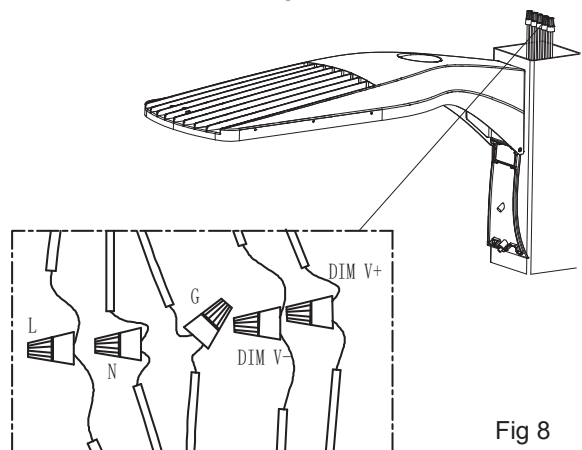

Fig 8
1. Connect the fixture wires to the power supply wires using P3 wire nuts.(Fig 8)